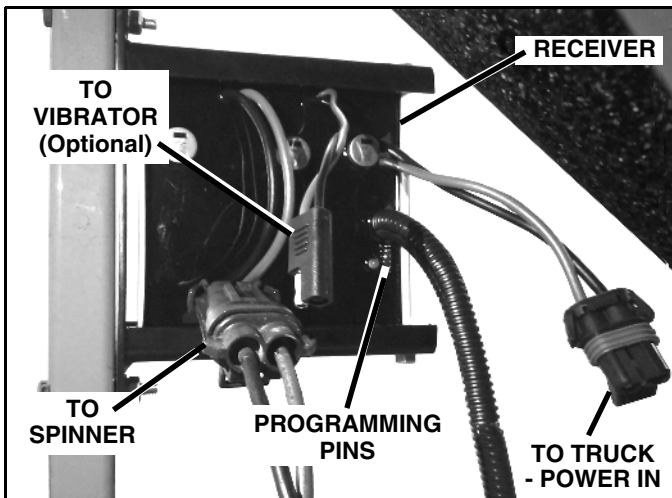

Figure 1-5
4. Slide the receiver into the bracket with the 6-Pin in circuit programming pins located vertically in the open end of the bracket. Secure the receiver with a 1/4" x 6" hex head cap screw and a 1/4" lock nut (See Figure 1-5).